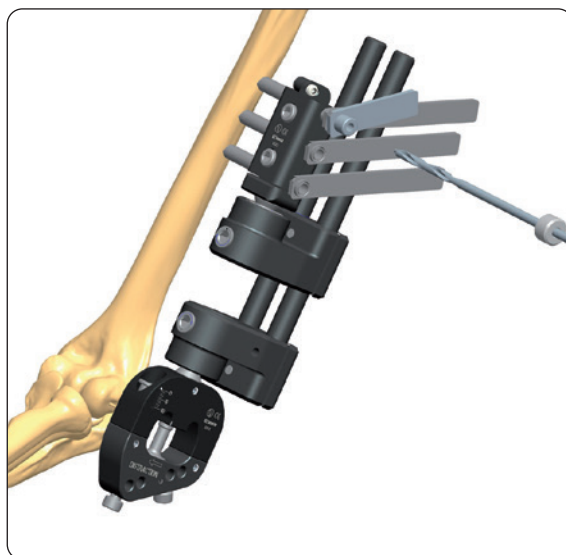

Fig. 4
3) Keeping the Screw Guide (11137) in contact with the cortex by gentle pressure, withdraw the Trocar (19955), and tap the Screw Guide lightly to anchor its distal end. Insert the 4.8mm Drill Guide (11138) into the Screw Guide, and introduce a 4.8mm Drill Bit (11001) (**Fig. 4**). Drill at 500-600 rpm through the first cortex, checking that the Drill Bit is at right angles to the bone. The force applied to the drill should be firm. Use a sharp drill and make sure that the drilling time is as short as possible to avoid thermal damage.